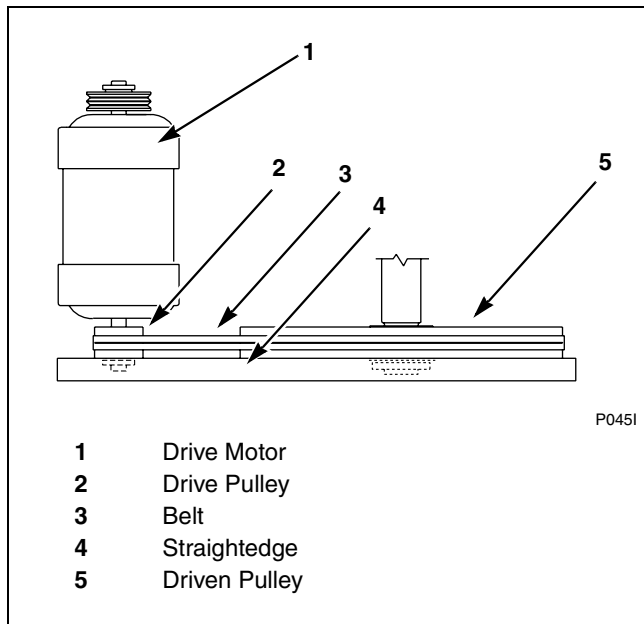

Figure 13
- c. Verify that V-belts are properly aligned by checking pulley alignment. Place a straightedge across both pulley faces. The straightedge should make contact with the pulleys in four places. Refer to *Figure 13*.